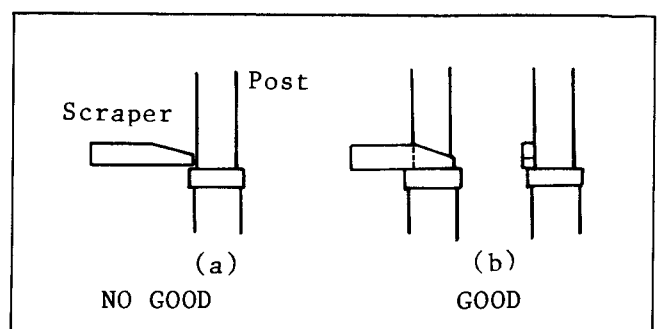

Fig. M21-3 Adj. of Tape Guide Post Height
4. Set the fixture to zero "0" and slowly raise the post until it just touches the scraper. When the scraper touches the post, it should fit as shown below in Fig. M21-3 (b). For adjustment of P1 and P4, use the nut driver.